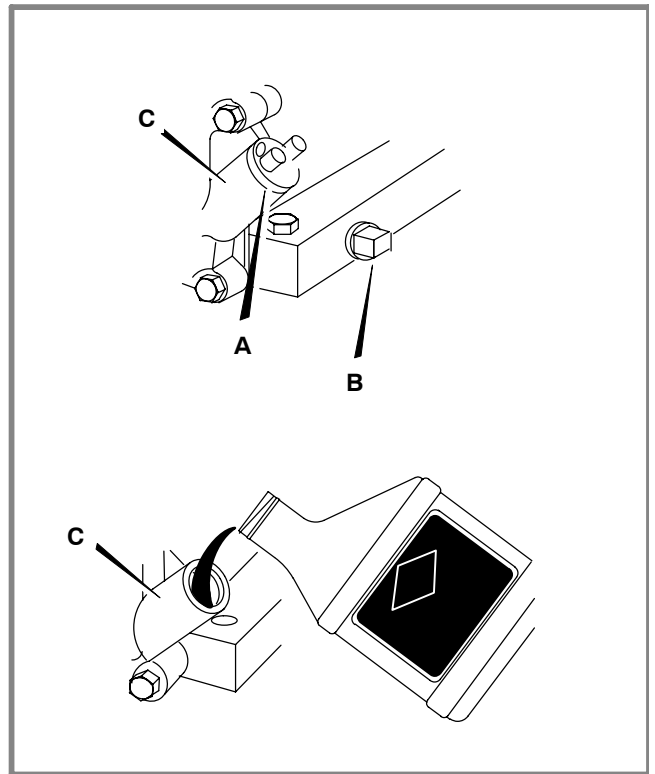

Figure 27: Change Oil
- 2 Clean the area around the oil fill cap (A) and the oil drain plug (B) of dirt and debris. See Figure 27.
- 3 With engine off but still warm, remove the oil drain plug (B). Completely drain all of the oil from the engine into an appropriate receptacle.
- 6 Remove the oil fill cap (A) from the engine oil fill (C).